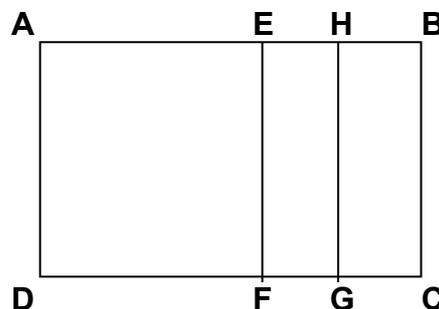

Figure 2
3. Find a safe path from one side of the area to the other and draw it on your map. The path needs to be 2 metres wide and its edges must always be at least 0.9 metres from the mines, in case vibrations from people's footsteps set off one of the mines. Your result may look something like Figure 2. Mark the sides of the path as EF and GH (see methods below).